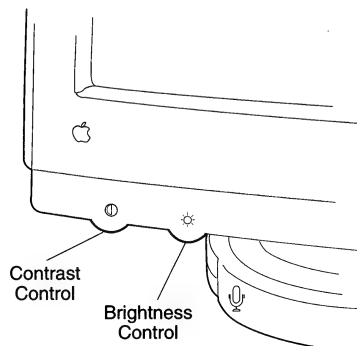

Figure 4 Brightness and Contrast Controls
5. FIGURE 4. Set the brightness control to detent (midrange) and the contrast control to maximum (turn clockwise).